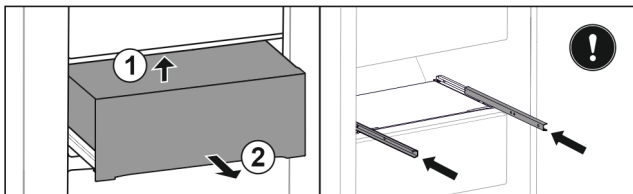

Fig. 117
- ▶ Lift drawer from below. Fig. 117 (1)
- ▶ Remove drawer to the front. Fig. 117 (2)